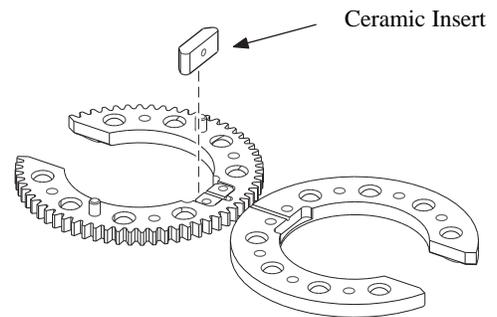

Figure 36 Removing the Ceramic Insert
7. Remove the ceramic insert. See Figure 36.